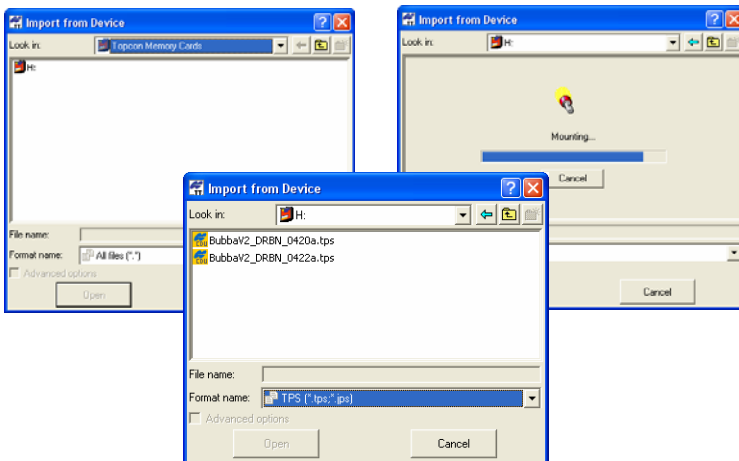

Figure 3-55. Import From Memory Card
3. Click **Memory Card** in the *Import from Device* dialog box. If the SD card was formatted in the receiver's file system, the disk, which designates the Topcon Memory Card, will display as red (Figure 3-55 on page 3-52).